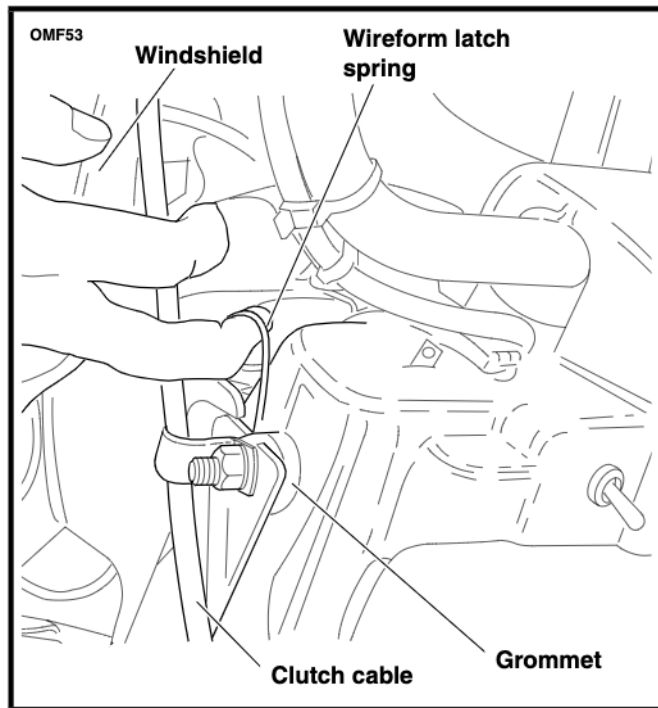

Figure 26. FLHR/C-I Windshield
1. See Figure 26. Insert your fingers into the wireform latch springs at either side of the windshield and move the TOP of the windshield assembly forward, until the TOP bracket notches slide away from the grommets.
1. See Figure 26. Insert your fingers into the wireform latch springs at either side of the windshield and slide the BOTTOM windshield bracket notches onto the bottom grommets.